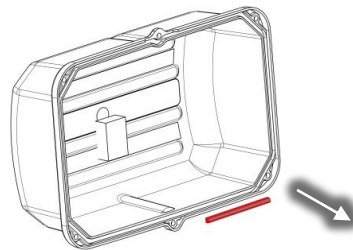

Figure 3 – Service Side Cover "D" Seal Removal
10. Remove the "D" seal from the cover. Note the position of the gap where the two (2) seal ends meet. Refer to Figure 3 (Service Side Cover "D" Seal Removal).